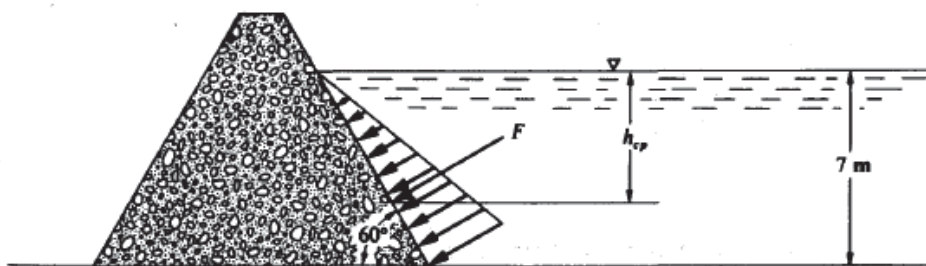

Fig. 3-6
3.6 A dam 20 m long retains 7 m of water, as shown in Fig. 3-6. Find the total resultant force acting on the dam and the location of the center of pressure.
Solution $F = \gamma h A = (9.79)[(0 + 7)/2][(20)(7/\sin 60^\circ)] = 5339 \text{ kN}$. The center of pressure is located at two-thirds the total water depth of 7 m, or 4.667 m below the water surface (i.e., $h_{cp} = 4.667 \text{ m}$ in Fig. 3-6).